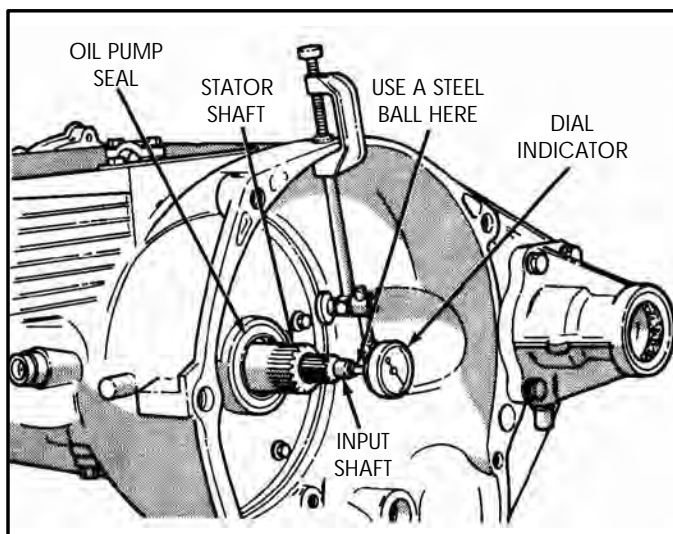

Figure 37
15. Attach a dial indicator to transaxle bell housing with the plunger seated against end of the input shaft, as shown in Figure 37, and zero the dial indicator.